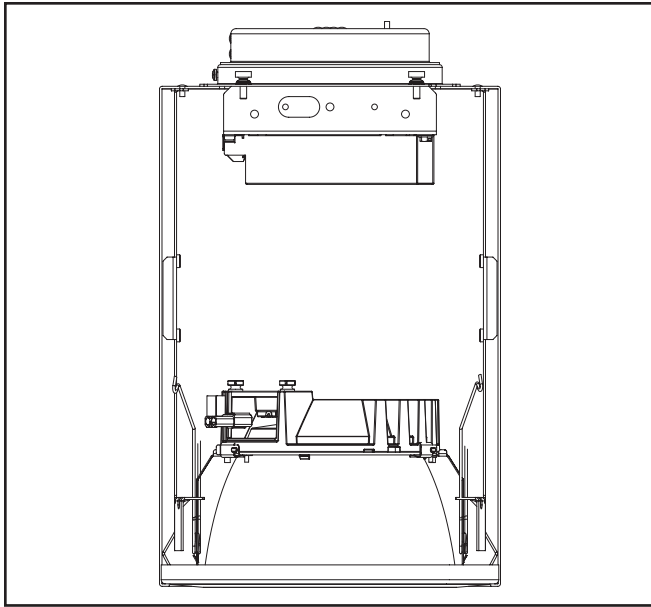

Figure 11.
7. Install the LED Engine and trim assembly by inserting the torsion springs into the spring receivers located inside the housing (Figure 11).